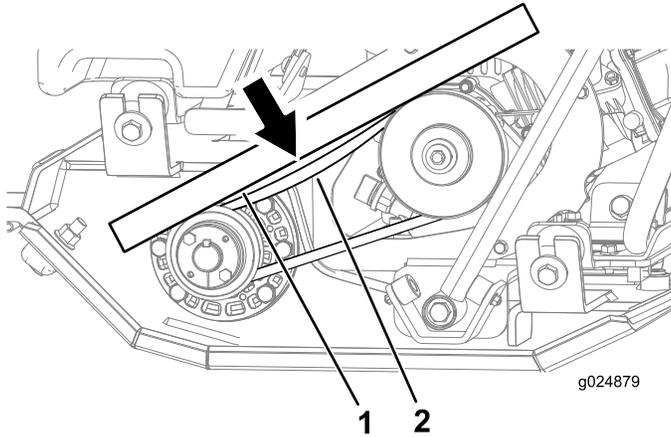

Figure 26
1. Lay a straight edge on the belt and across the pulleys (Figure 26).
2. With a force gauge, push down on the belt, midway between the pulleys (Figure 26).
Note: The belt should deflect 7.6 mm (0.3 inch) from the straight edge when pushing down on the belt with 1.4 to 2.3 kg (3 to 5 lb) of force (Figure 26).